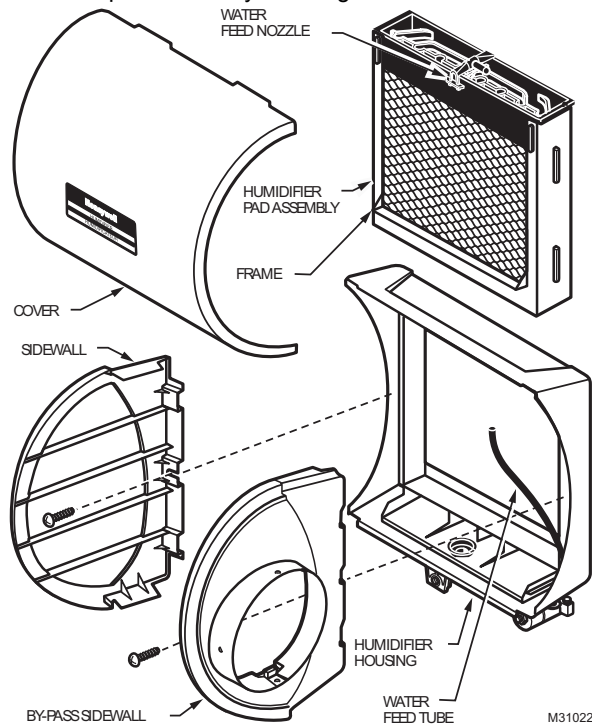

Fig. 2. Humidifier components
4. Disassemble the humidifier. Remove the cover and take out the humidifier pad assembly. See Fig. 2.